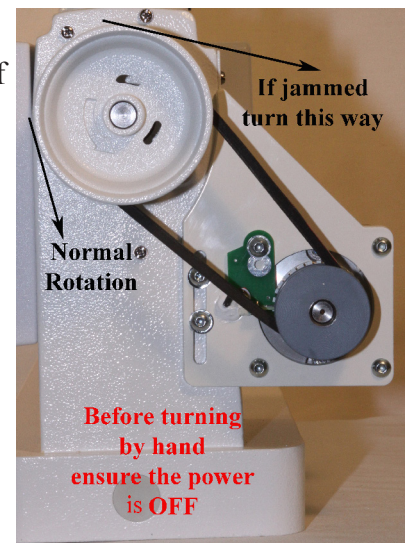

Figure 79
Step 3: Rotate the hand wheel clockwise to back the jam out of the bobbin race. (This may take some work to get it worked free.) *See figure 79*